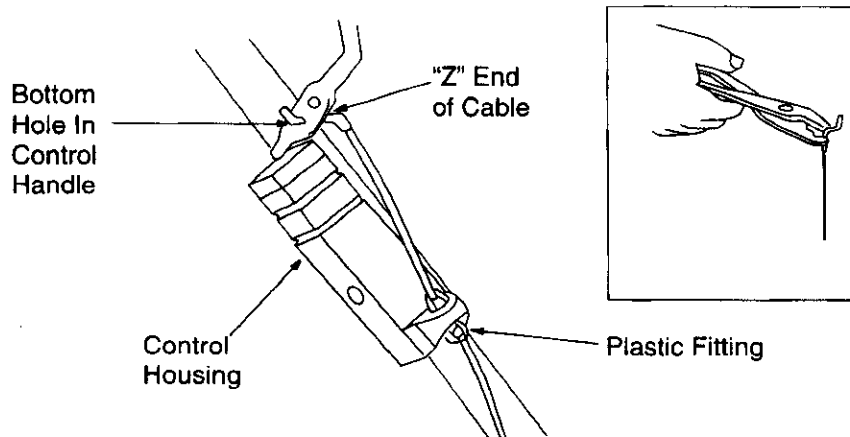

Figure 5
2. Route the control cable over the lower handle. Place the end of the cable into the lower hole in the control housing as shown in Figure 5. Push the plastic fitting until it locks into the control housing.
3. Lift the control handle up, and hook the "Z" end of the control cable into the **bottom** hole in the control handle, from the outside to the inside (some models use only one hole). If necessary, use a pair of pliers to pull up on the end of the cable to obtain slack in order to hook it into the control handle. Hold the "Z" fitting with the pliers, not the cable, to avoid damaging the cable. (See inset - Figure 5.)